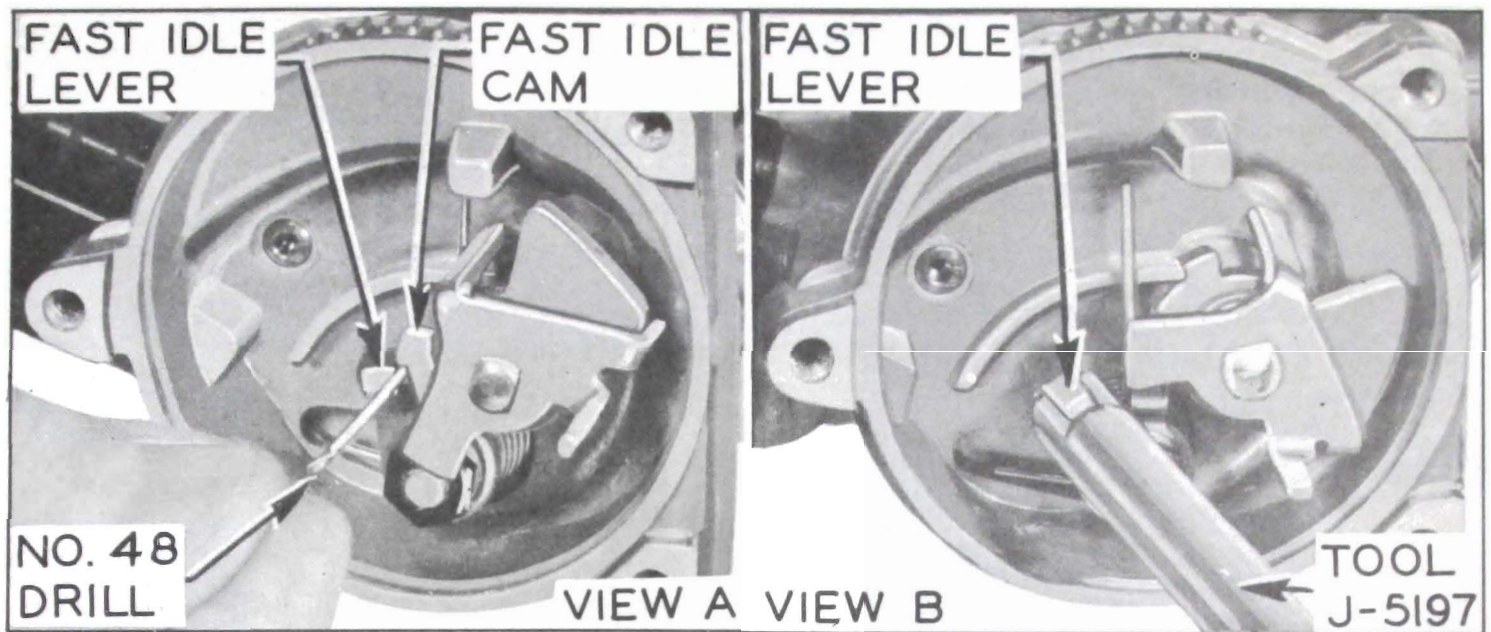

Figure 3-65—Fast Idle Speed Adjustment
3. With choke valve closed and throttle lever held against stop screw, measure clearance between fast idle lever and high step of fast idle cam using a No. 48 drill (.076"). See figure 3-65, (View A).
4. If clearance is wrong, bend fast idle lever as required to correct using Tool J-5197. See figure 3-65, (View B). *Fast idle lever must be parallel to carburetor mounting surface after bending.*